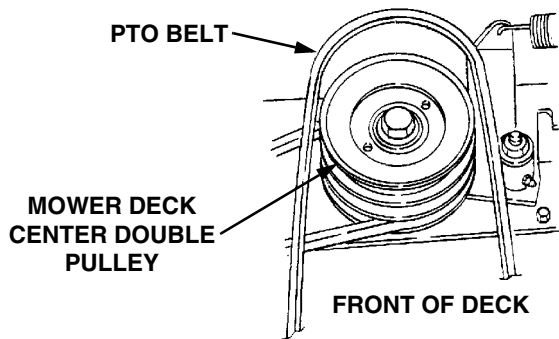

Figure 39
- Install the rearward end of the PTO belt on the upper pulley of the deck center double-pulley (Refer to Figure 39). Ensure that the narrow side of the belt engages the groove of the upper pulley, and that there is no more than a 1/4 twist in the belt between the front pulleys and the double pulley.